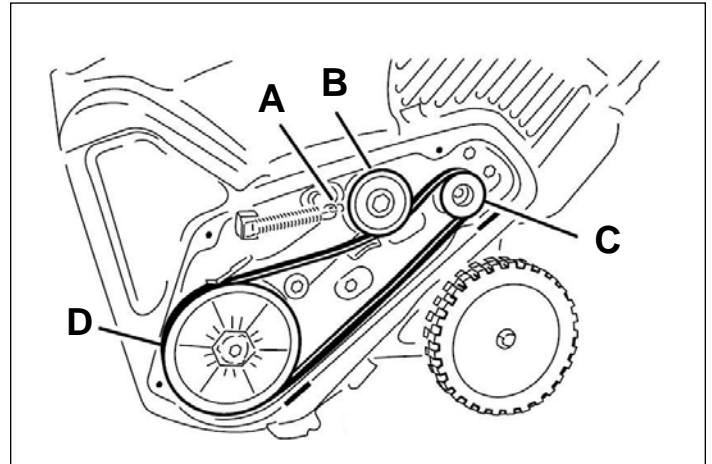

Fig. 022
5. Install the new drive belt, routing it as shown in (Fig. 022).
Route the new drive belt first around the engine pulley, then the idler pulley, and finally around the loose rotor pulley positioned just above the rotor shaft (Fig. 022).
6. Install the rotor pulley onto the rotor shaft (Fig. 022).
7. Install the curved washer and the rotor pulley bolt and tighten them securely (Fig. 022).
8. Install the brake spring onto the idler arm (Fig. 022).